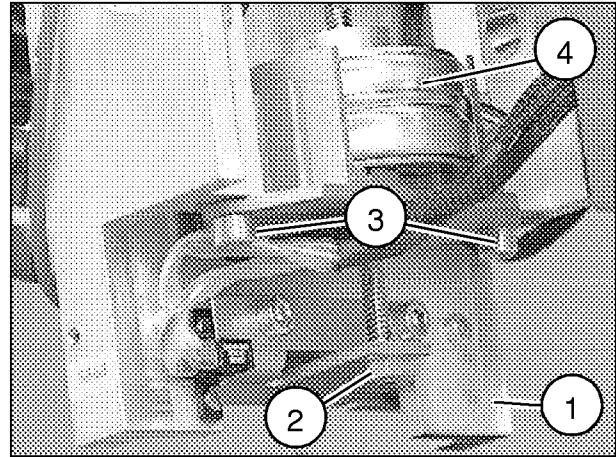

Fig. 12
- Remove connector X879 on D805 and secure the carriage (1/Fig.12).
- Remove the nut (2/Fig.12) and the 2 screws (3/Fig.12).
- Remove the old motor (4/Fig.12). Install the new motor using the reverse procedure and connect it.